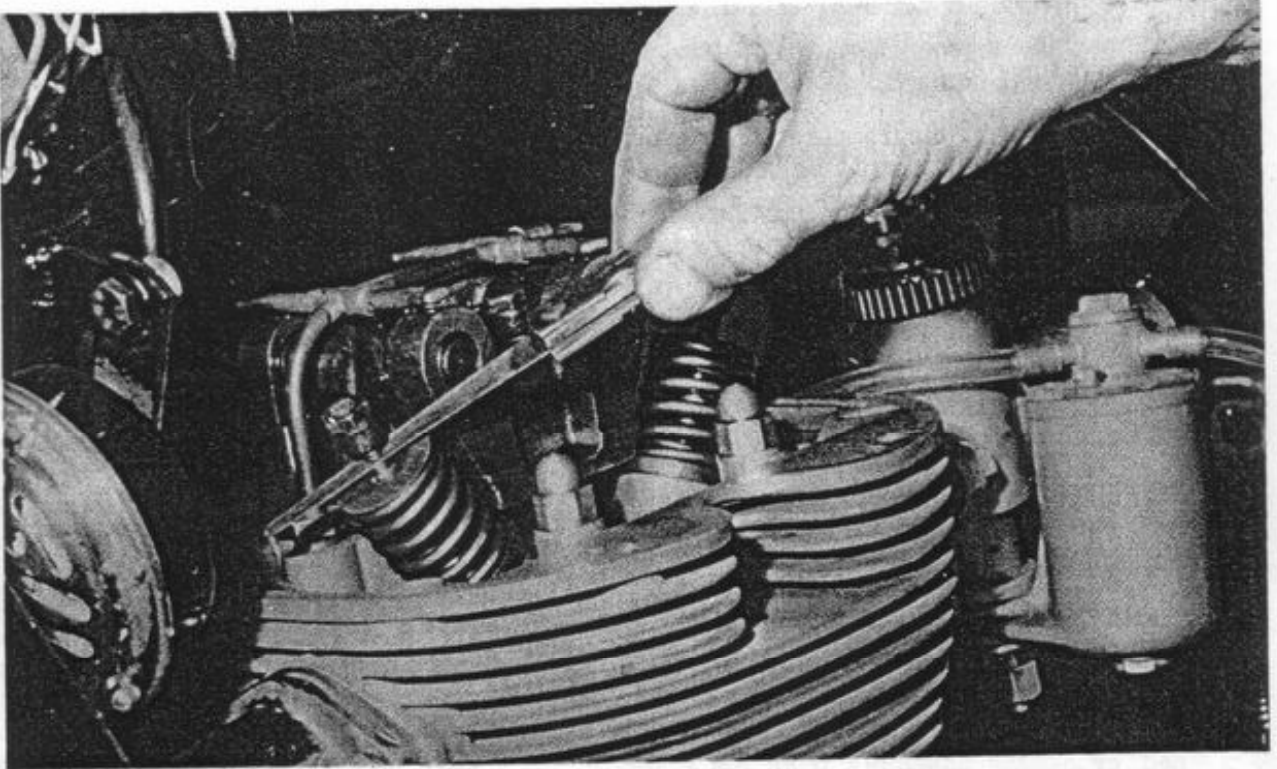

Figure 33.
9. Check the (valve) clearance at the rocker arm adjustment. It should be .006 inches cold for both intake and exhaust valves (Figure 33).